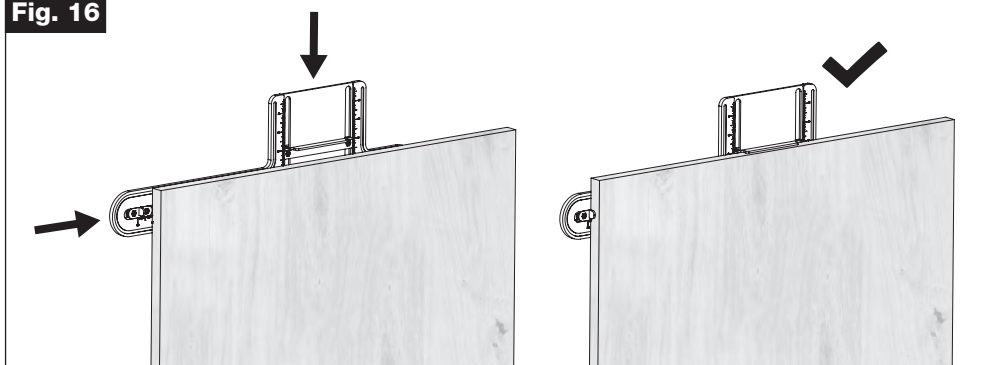

Fig. 17
- Clamp the jig to the door/drawer in 2 places away from the drilling area, using non-marring clamps (**Fig. 17**).